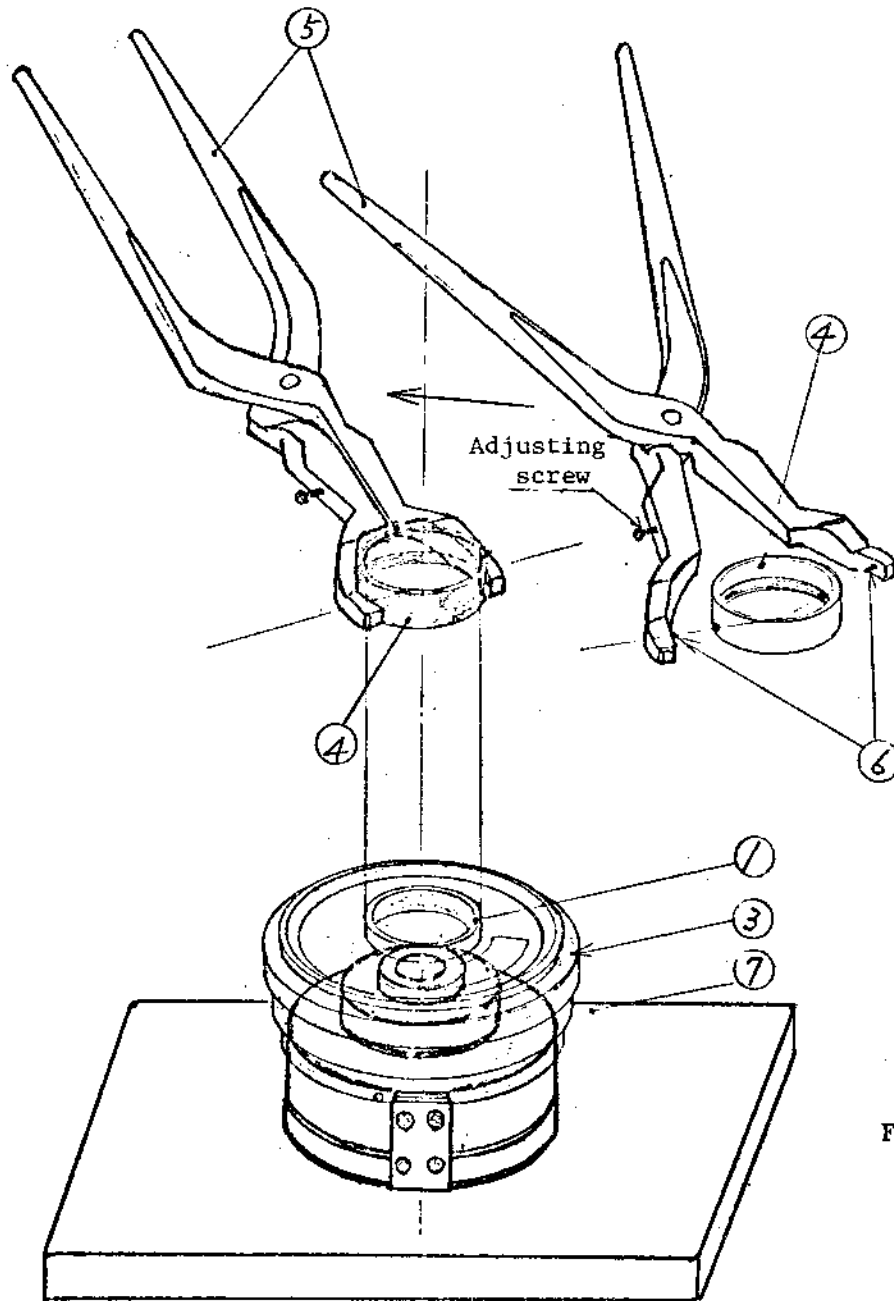

Fig. 2
Set ④ of the helicoid unit ③ to the helicoid inner cylinder assembly jig ⑦ as shown in Fig. 2.